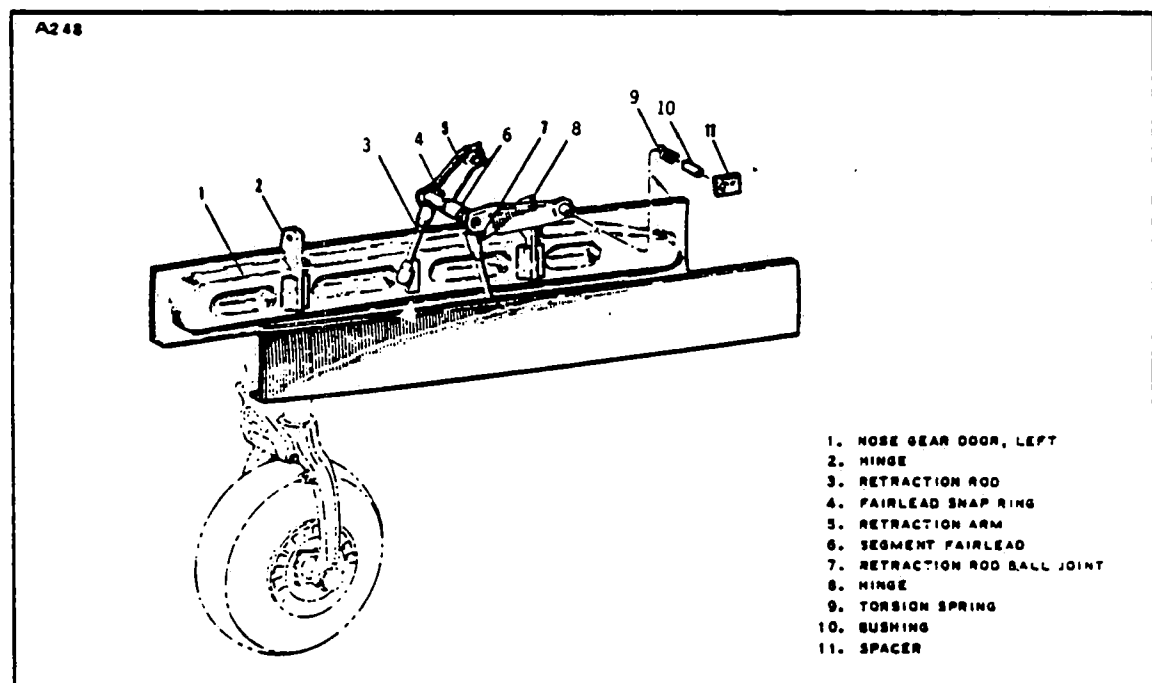

Figure 7-7. Nose Gear Door Installation
**7-14. REMOVAL OF NOSE GEAR DOOR ASSEMBLY. (Refer to Figure 7-7.)**
- b. Remove bolt, nut and washer attaching each retraction arm torsion spring (9), bushing (10) and spacer (11) (left side only) to its mounting bracket.
- c. Remove the four pivot bolts attaching the door hinges (2) to the fuselage.
**7-16. INSTALLATION OF NOSE GEAR DOOR ASSEMBLY. (Refer to Figure 7-7.)**
- a. Install retraction arms (5) in the wheel well with torsion spring (9), bushing (10) and spacer (11) (left side only) and secure with bolts, washers and nuts.
- c. Connect retraction rods (3) to doors (1) and retraction arms (5) and secure with washers and locknuts.